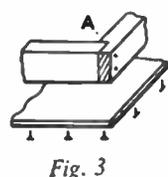

Fig. 3
The side frames are joined by four cross pieces each $1\frac{1}{2}$ in. by $\frac{1}{2}$ in. by 14 in. which fit into the recesses (C), cut to fit them. See Fig. 2. These are then glued and pinned into place. A similar piece of 1 in. by $1\frac{1}{4}$ in. by 14 in. timber is fixed across the end of the feeding tray as seen in Fig. 3 which also shows how a piece of hardboard is covered with plastic mat-